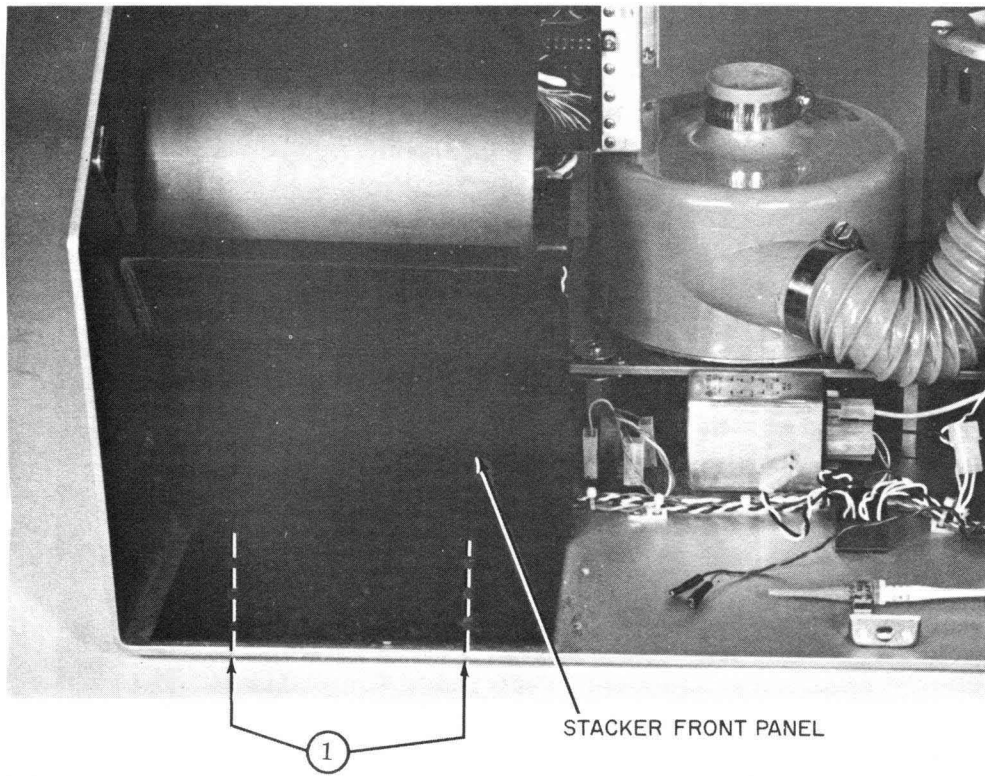

Figure 6-8. Stacker Panel Removal
- a. Remove two screws from bottom of mainframe holding stacker front panel (1), figure 6-8.